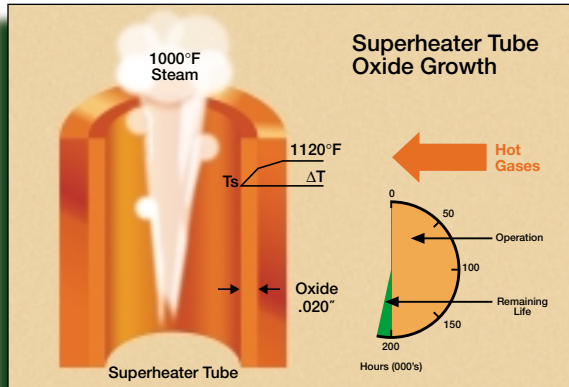

Figure 7: Steam side oxide scale on tube ID increases tube metal temperature and reduces tube life.
Just as with high temperature headers and piping systems, alloy tubing in the superheater and reheater experience creep during normal long term operation which eventually leads to creep-rupture failure. Oxide scale builds up on the inside diameter (ID) surface and has an insulating effect raising tube temperatures (figure 7). At the same time, tubes can experience wall loss from corrosion and erosion leading to increased tube stresses.